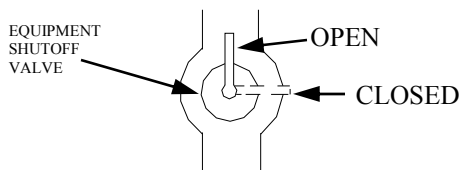

FIGURE 19 - EQUIPMENT SHUTOFF VALVE
1. Close equipment shutoff valve (See Figure 19).
1. Open equipment shutoff valve (See Figure 19).